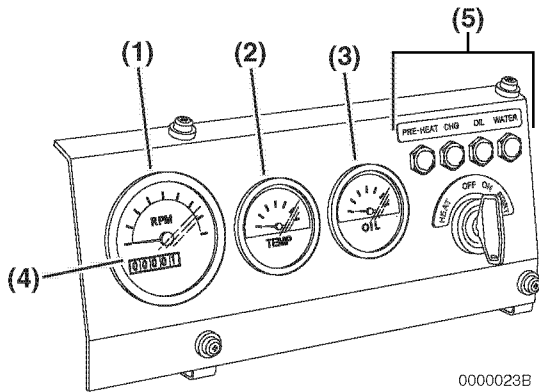
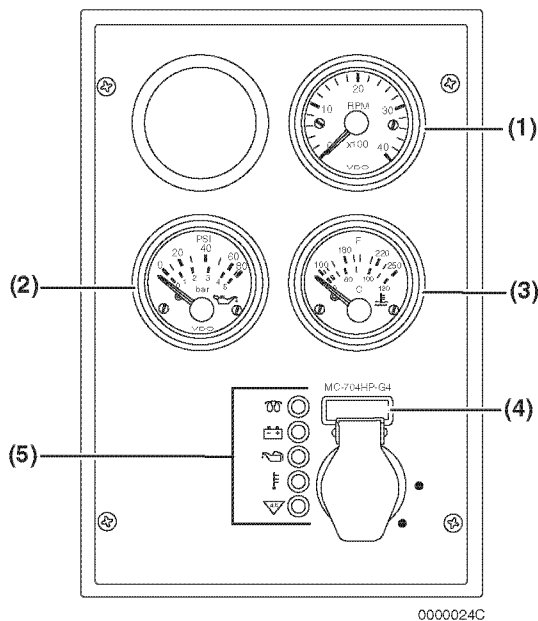

Figure 4
Figure 5
1. While the engine is running, check the gauges for normal indications. The gauges shown in **Figure 5** and **Figure 4** are provided for illustrative purposes only.
- **Tachometer (Figure 5, (1)) or (Figure 4, (1))** - Make sure the engine speed is within normal limits. See *Engine Speed Specifications* on page 128.
- **Engine Oil Pressure (Figure 5, (2)) or (Figure 4, (3))** - Make sure the engine oil pressure is within normal limits. See *Principal Engine Specifications* on page 129.
- **Engine Coolant Temperature (Figure 5, (3)) or (Figure 4, (2))** - Make sure the engine coolant temperature is within normal limits.
- **Hour Meter** - The hour meter display (Figure 5, (4)) or (Figure 4, (4)) shows the total number of hours the engine has run. This is useful for planning periodic maintenance operations. See *Periodic Maintenance Schedule* on page 85.
2. After the engine has reached operating temperature, all of the indicators (**Figure 5, (5))** or (**Figure 4, (5))** should be off. If any of the indicators are on, shut down the engine and have the necessary repairs performed.